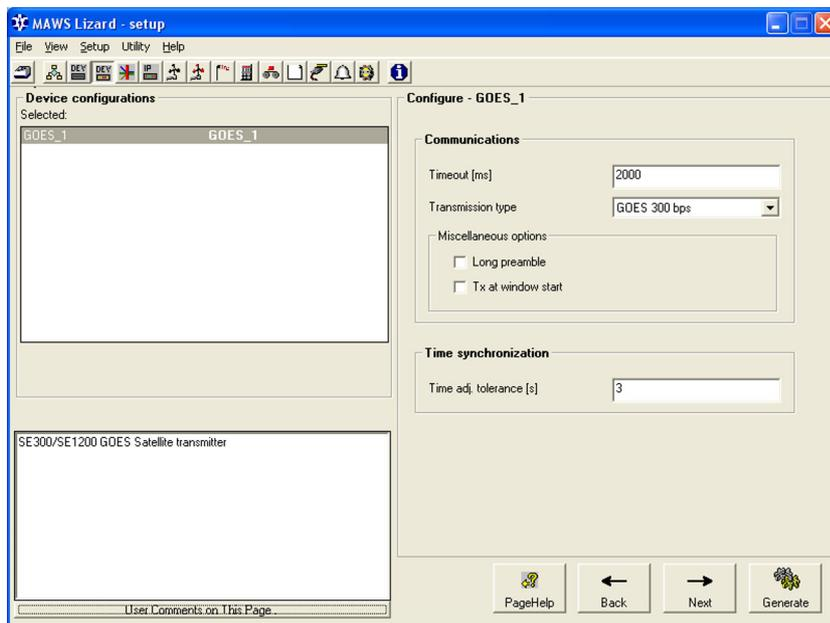

Figure 75 Device Configurations View: Configuring GOES
- Under **Miscellaneous options**, either short or long preamble can be selected for GOES 100 bps primary transmissions. For the secondary transmissions, the short preamble is always used regardless of the **Long preamble** option selection under **Misc options**. This setting has no affect either for GOES 300 bps, GOES 1200 bps, or METEOSAT transmissions because a fixed preamble is always used with these. Refer to Figure 75 on page 162.